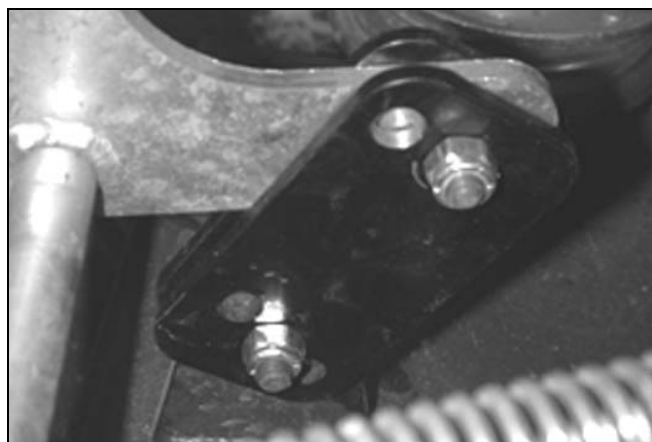

Figure 14
- Adjust the deck from front to back as needed by moving to a different hole in the rear adjustment bracket (*Figure 14*). Each hole in the top of the bracket will adjust the deck height by $1/16"$.